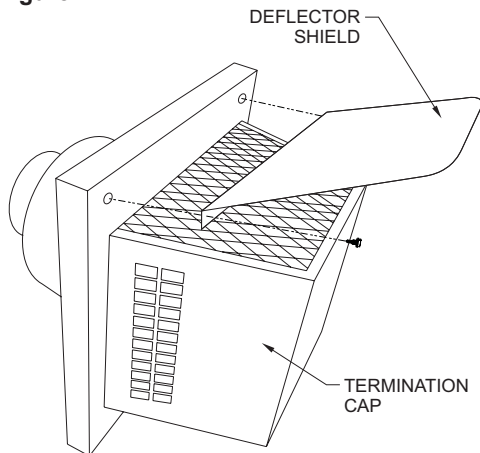

Figure 71
- Secure the termination cap to the house exterior using four 1/8 x 3 inch long screws. Be sure to install the Deflector Shield with the two screws at the top of the termination base. **See Figure 71.**